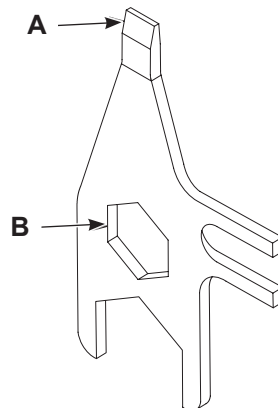

Figure 7-1 Combination Tool
- See Figure 7-1: Combination tool (provided with spray gun)